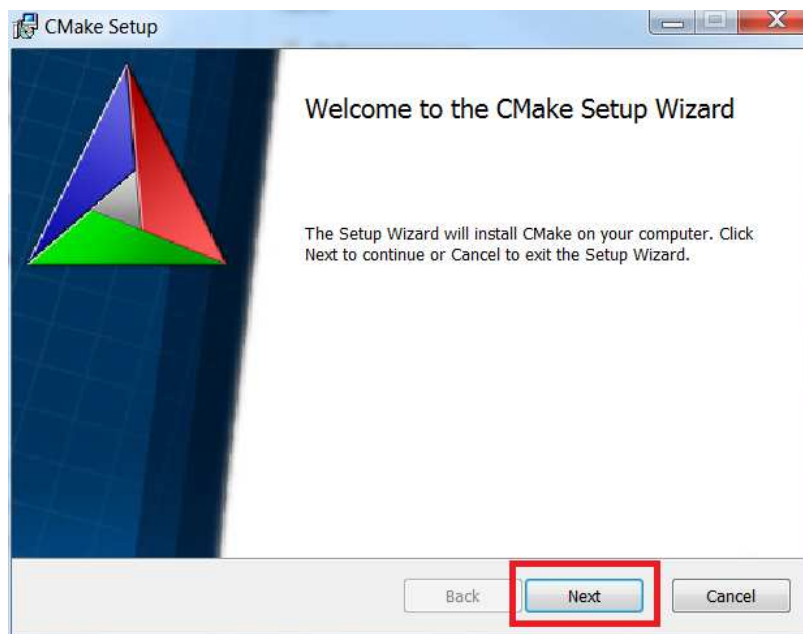

Figure 16. Open CMake Installer
2. Once the download is complete, run the executable. Click "Next" as shown in Figure 16.